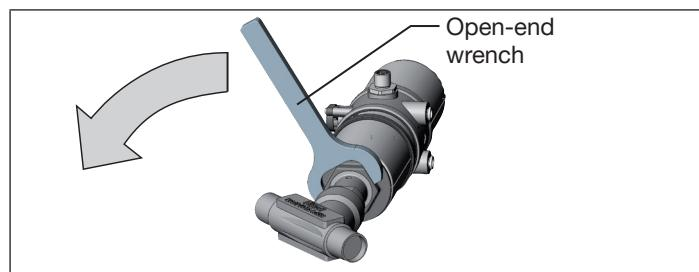

Fig. 8: Rotating with open-end wrench
- ▶ Only turn the actuator in the specified direction (see "Fig. 8")!